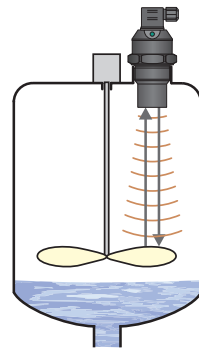

Fig. 13: False reflection from mixer blades
- r) The device should not be installed in places with the risk of **false reflections** of the ultrasonic signal from the mixer's blades (Fig. 13).